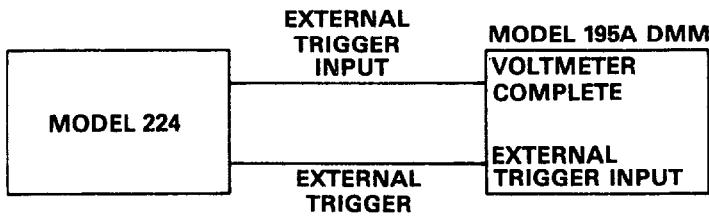

Figure 2-6. External Trigger Connections
1. Connect the Model 224's EXTERNAL TRIGGER INPUT connector to the Model 195A's VOLTmeter COMPLETE (trigger out) connector. Connect the Model 224's EXTERNAL TRIGGER OUTPUT to the Model 195A's EXTERNAL TRIGGER INPUT. Refer to Figure 2-6 for a block diagram.